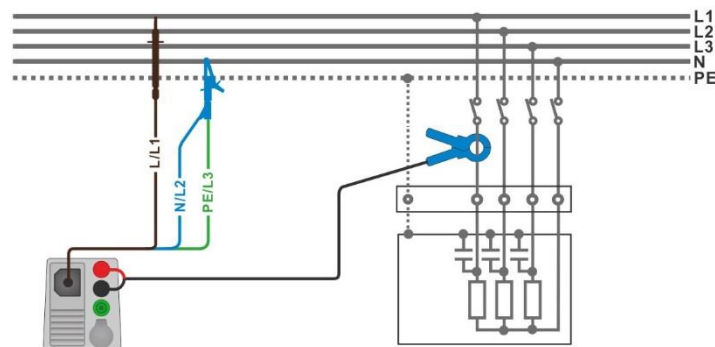

Figure 7.106: Power measurement
- › Connect the 3-wire test lead and current clamp to the item to be tested (see **Figure 7.106**).